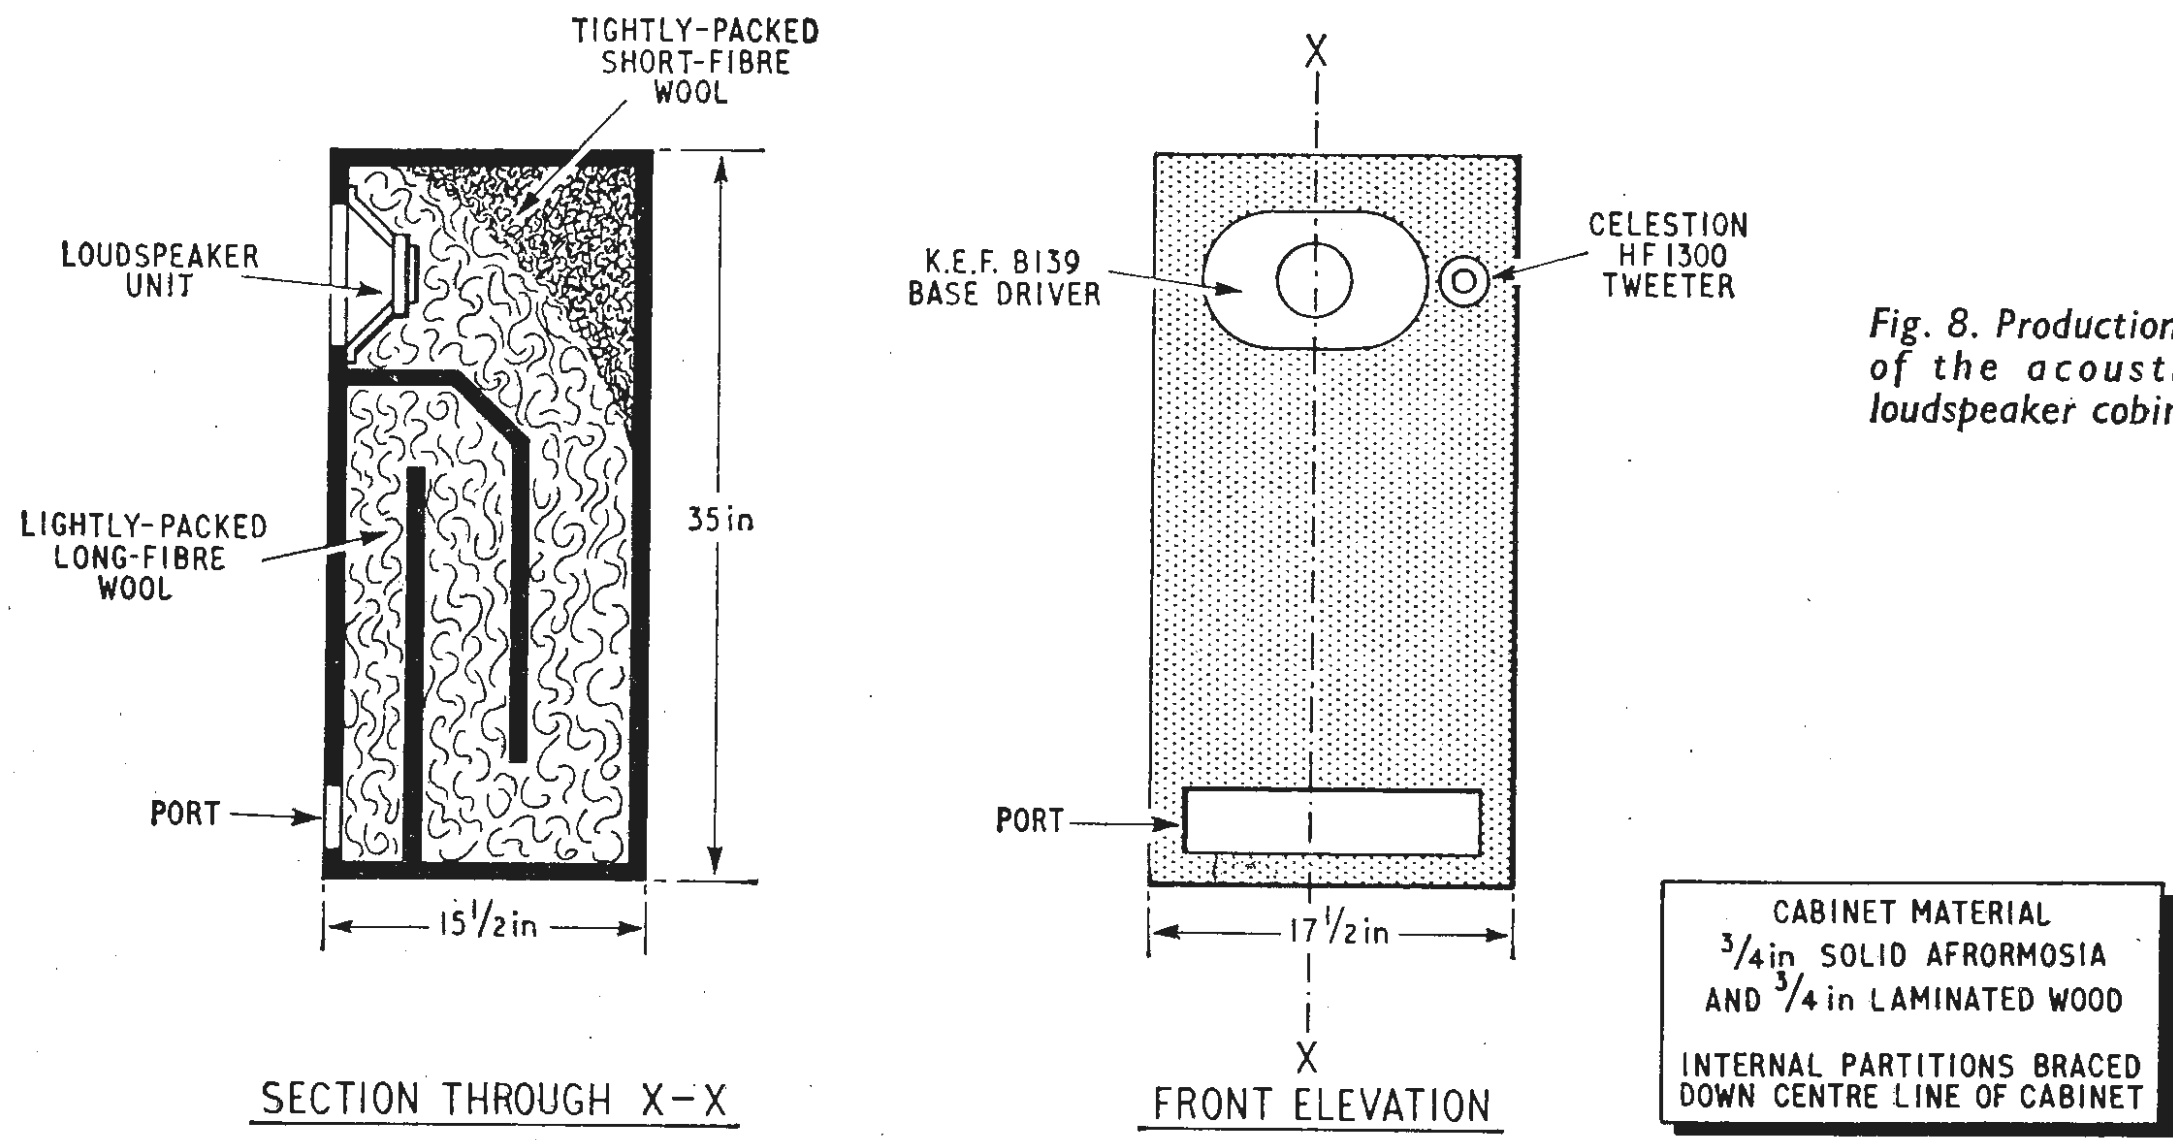

Fig. 8. Production version of the acoustic-line loudspeaker cabinet.
For obvious reasons it is preferable to have the long axis of the loudspeaker in the vertical plane. The cabinet ducting arrangement was therefore rearranged and one commercial form is as shown in Fig. 8. To make the most of the cabinet it is obvious that the loudspeaker units must not possess large colorations of their own. The units quoted give very good performance although other equally good units may be available. The cross-over frequency used is 1500 c/s.
**Acknowledgements.**—In conclusion the author would like to thank Radford Electronics Ltd. for permission to give the details shown in Fig. 8. Also thanks are due to R. V. Leedham and other colleagues for their help and criticism.